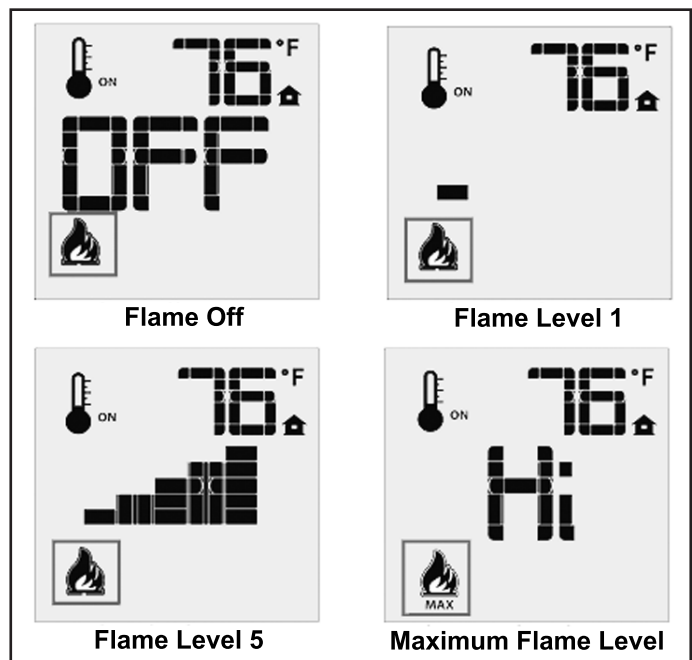

Figure 11: Remote Control's Flame Levels.
The Proflame 2 GTMF has six (6) flame levels. With the system on, and the flame level at the maximum in the appliance, pressing the Down Arrow Key once will reduce the flame height by one step until the flame is turned off. The Up Arrow Key will increase the flame height each time it is pressed. If the Up Arrow Key is pressed while the system is on but the flame is off, the flame will come on in the high position (refer to Figure 11). A single “beep” will confirm reception of the command.